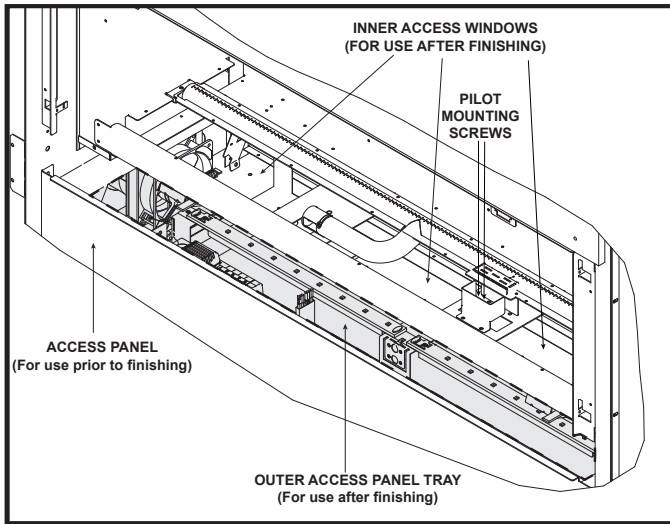
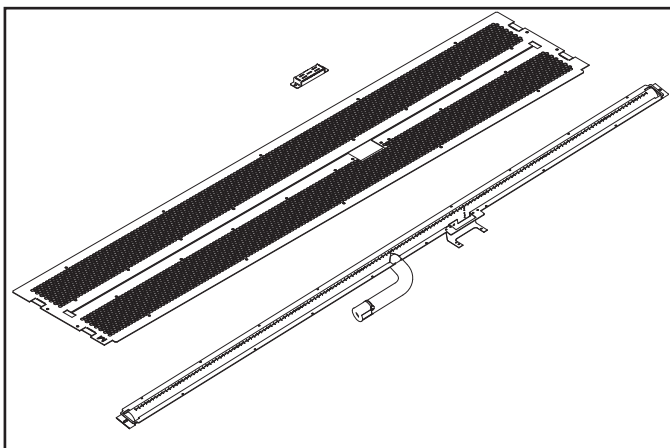

Figure 9.2 Gas and Electrical Access
Figure 9.3. Base Pan with Burner and Pilot Cover
The lower access cover panel is removable if finishing material is not installed. See Figure 9.2.
6. There are three access windows located on the interior of the firebox bottom. See Figure 9.2. Remove screws and plate to access the manual shutoff valve included with this fireplace.
- Remove the base pan. It is attached with 14 screws to the interior firebox bottom and with 19 screws to the burner assembly. If your appliance is a model that has the glass rock media, you must also remove the pilot shield cover at this time. See Figure 9.2 and Figure 9.3.
- Remove the two screws that secure the pilot to the burner tube. Remove the two screws that secure the burner to the firebox sides and disengage burner from over orifice. Remove burner. See Figure 9.3.
- Remove access panel covers or glass windows, along with gaskets. Gaskets may be fragile. Handle with care. See Figure 9.2.